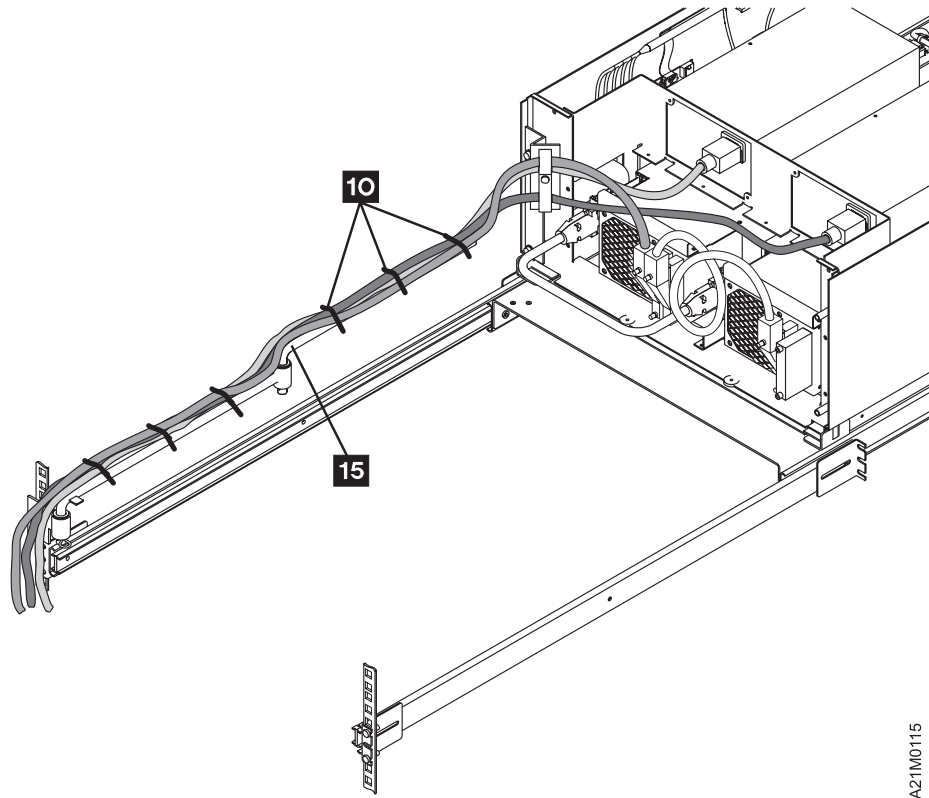

Figure 46. 3570 and Articulated Arm Extended for Model C22 Dual-Drive Single-Host
- ___ Step 8. See Figure 46. Push the 3570 completely forward so it will lock into position, then extend the articulated arm to its full length toward the 3570 library.